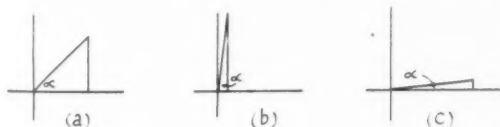

Fig. 4
The sine is the ratio of the opposite side to the hypotenuse. Referring to Fig. 4 (b) we see that as the angle  $\alpha$  is made large the length of the opposite side approaches the length of the hypotenuse. If the limiting case where  $\alpha$  is made  $90^\circ$  is considered, the sides would coincide and the ratio would be 1 to 1, so the sine would have a value of 1 for  $\alpha$  equal to  $90^\circ$ . On the other hand, referring to Fig. 4 (c), we see that as  $\alpha$  gets smaller and is made to approach zero, the ratio of opposite to hypotenuse approaches zero. Thus, at  $\alpha = 0^\circ$ ,  $\sin \alpha = 0$ .
1. Thus for  $\alpha = 90^\circ$ ,  $\cos \alpha = 0$  and for  $\alpha = 0^\circ$ ,  $\cos \alpha = 1$ . These relations can also be seen by referring to Fig. 4.
That  $\tan \alpha = \infty$  (symbol for infinity) at  $\alpha = 90^\circ$  can perhaps be seen more clearly by referring to Fig. 4 (b) again. The tangent is equal to the ratio of the opposite side to the adjacent side, and thus as the angle  $\alpha$  approaches  $90^\circ$ , the opposite side approaches the length of the hypotenuse and the length of the adjacent side approaches zero. Therefore the ratio keeps getting